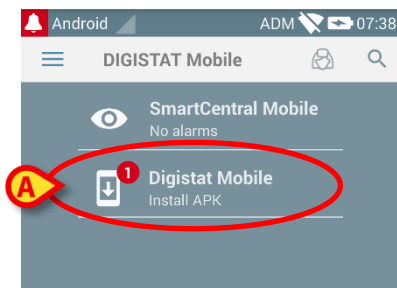

Fig 198
Whenever a software update is available, an additional row is displayed on the start page (Fig 198).
- Touch the row indicated in Fig 198 **A**.